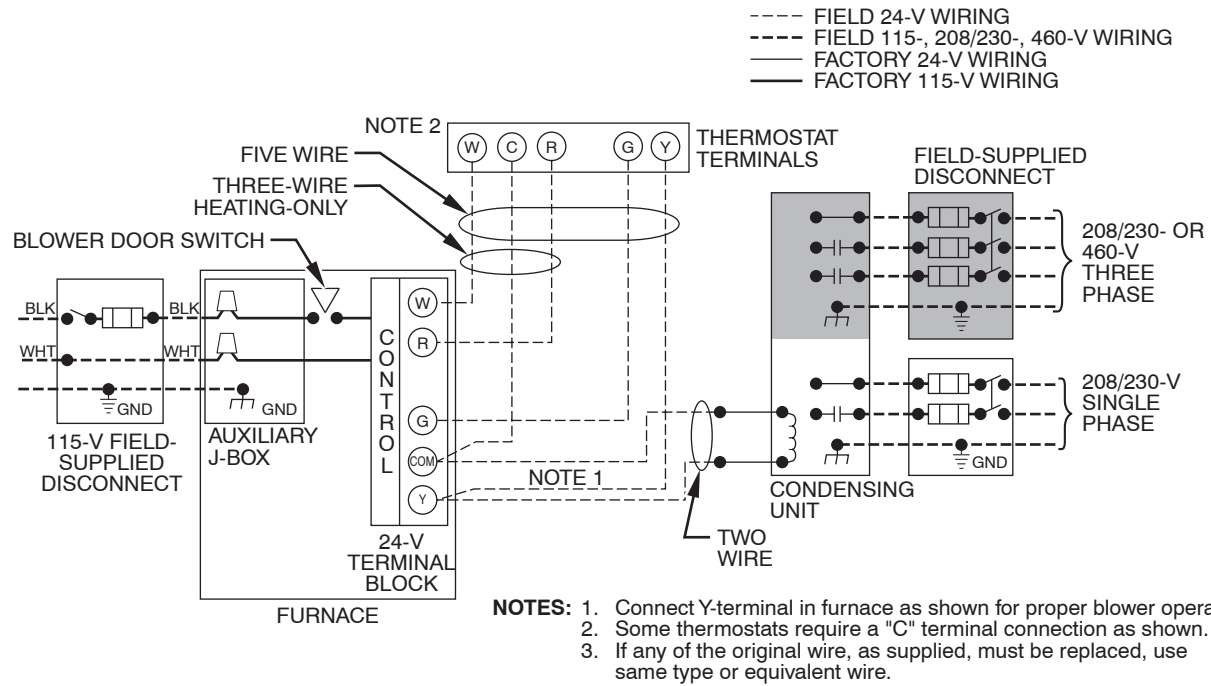
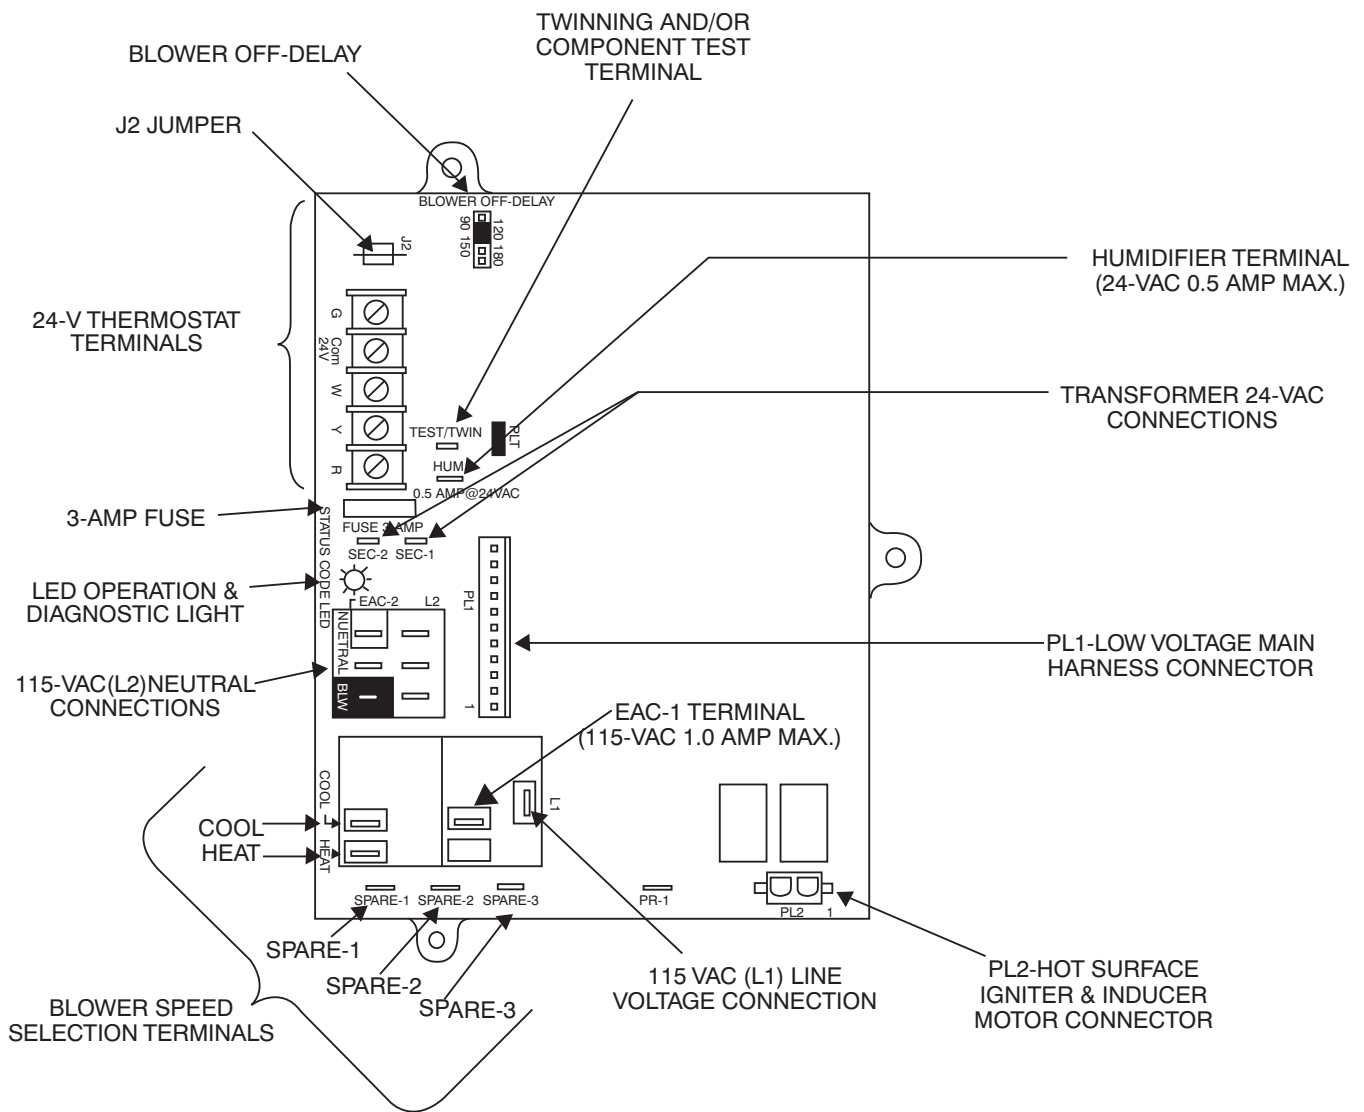

Fig. 36 - Typical Single-Stage Wiring Diagram
Fig. 37 - Example of Single Stage Furnace Control
7. Connect field power and neutral leads to furnace power leads as shown in Fig. 36.
6. Connect power cord power and neutral leads to furnace power leads as shown in Fig. 36.
5. Connect field power and neutral leads to furnace power leads, as shown in Fig. 36.
Make field 24-v connections at the 24-v terminal strip. See Fig. 37. Connect terminal Y as shown in Fig. 36 for proper cooling operation. Use only AWG No. 18, color-coded, copper thermostat wire.
The 24-v circuit contains an automotive-type, 3-amp. fuse located on the control. Any direct shorts during installation, service, or maintenance could cause this fuse to blow. If fuse replacement is required, use **ONLY** a 3-amp. fuse of identical size. See Fig. 37.